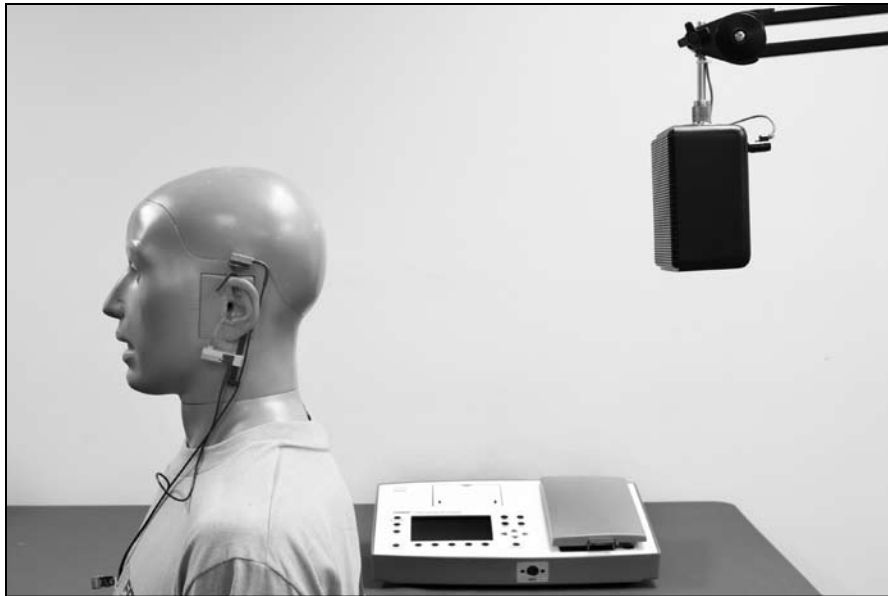

Figure 4.4.4A—"Reverse" directional aid setup
10. Turn your client around so that the back of his head is facing the speaker. See Figure 4.4.4A. Alternately, if you are using an external speaker on a swing arm, you can swing the speaker around the client.